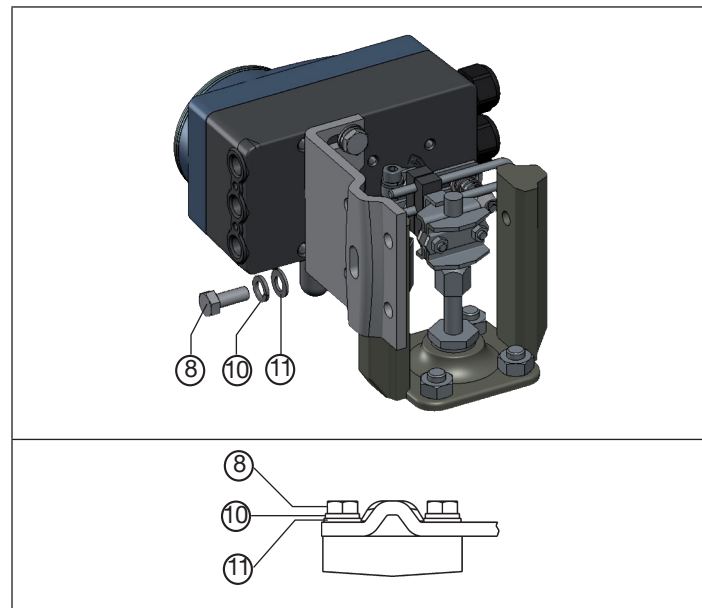

Fig. 11: Attach positioner with mounting bracket; for actuators with cast frame
- Attach mounting bracket to the cast frame with one or more hexagon bolts ⑧, washers ⑪ and circlips ⑩ (see “Fig. 11”).